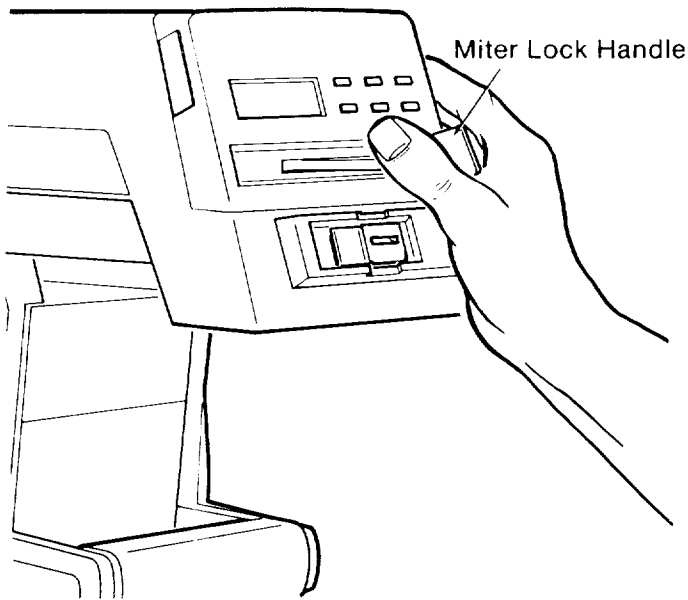

Fig. 149 - Miter Lock - Unlocked
1. Move the *arm* to an unindexed position and leave the *miter lock* in the unlocked position. (Figure 149)